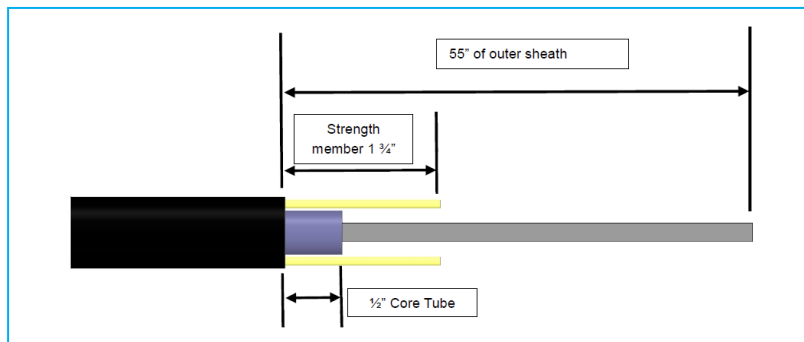

Figure 7
5.1.4.1 Remove **55"** of outer sheath from end of cable. See Figure 7.
5.1.4.2 Cut strength member(s) **1 3/4"** from end of sheath opening. See Figure 7.
5.1.4.3 Remove core tube from ribbon leaving **1/2"** core tube, measured from the cable sheath openings. See Figure 7.